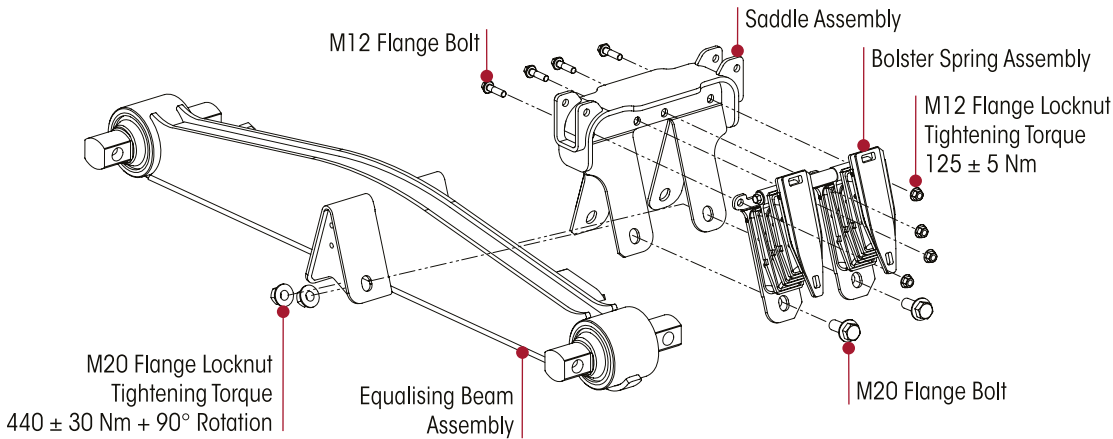

Figure 23: Saddle and Bolster Springs
6. Remove the upper M12 fasteners that connect the tie-bar bolster springs to the saddle assembly, refer Figure 23.
7. Remove the lower M20 fasteners connecting the tie-bar bolster springs to the equalising beam, refer Figure 23.
8. Remove the tie-bar bolster springs, refer Figure 23.
6. Install the lower tie-bar M20 fasteners to the equalising beam and tighten to **440 Nm + 90°** rotation torque, refer Figure 23.
7. Tighten the tie-bar bolster springs M12 fasteners to the saddle to **125 Nm** torque, refer Figure 23.